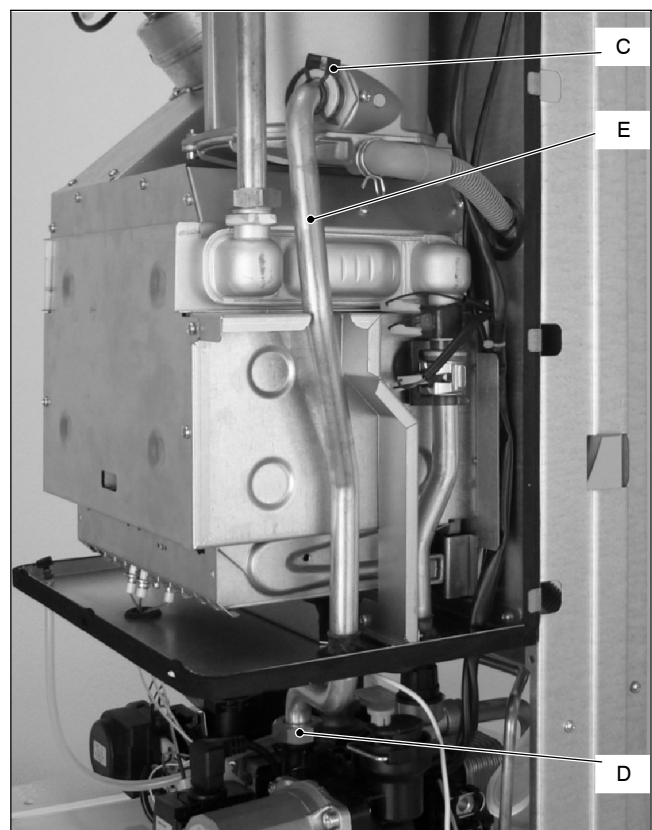

Fig. 2
- 4 Remove the clip C (Fig. 2).
- 5 Loosen the connection D (Fig. 2).
- 6 free the pipe E (Fig. 2) from the connection of the condensing heat exchanger; lift and rotate it towards right.